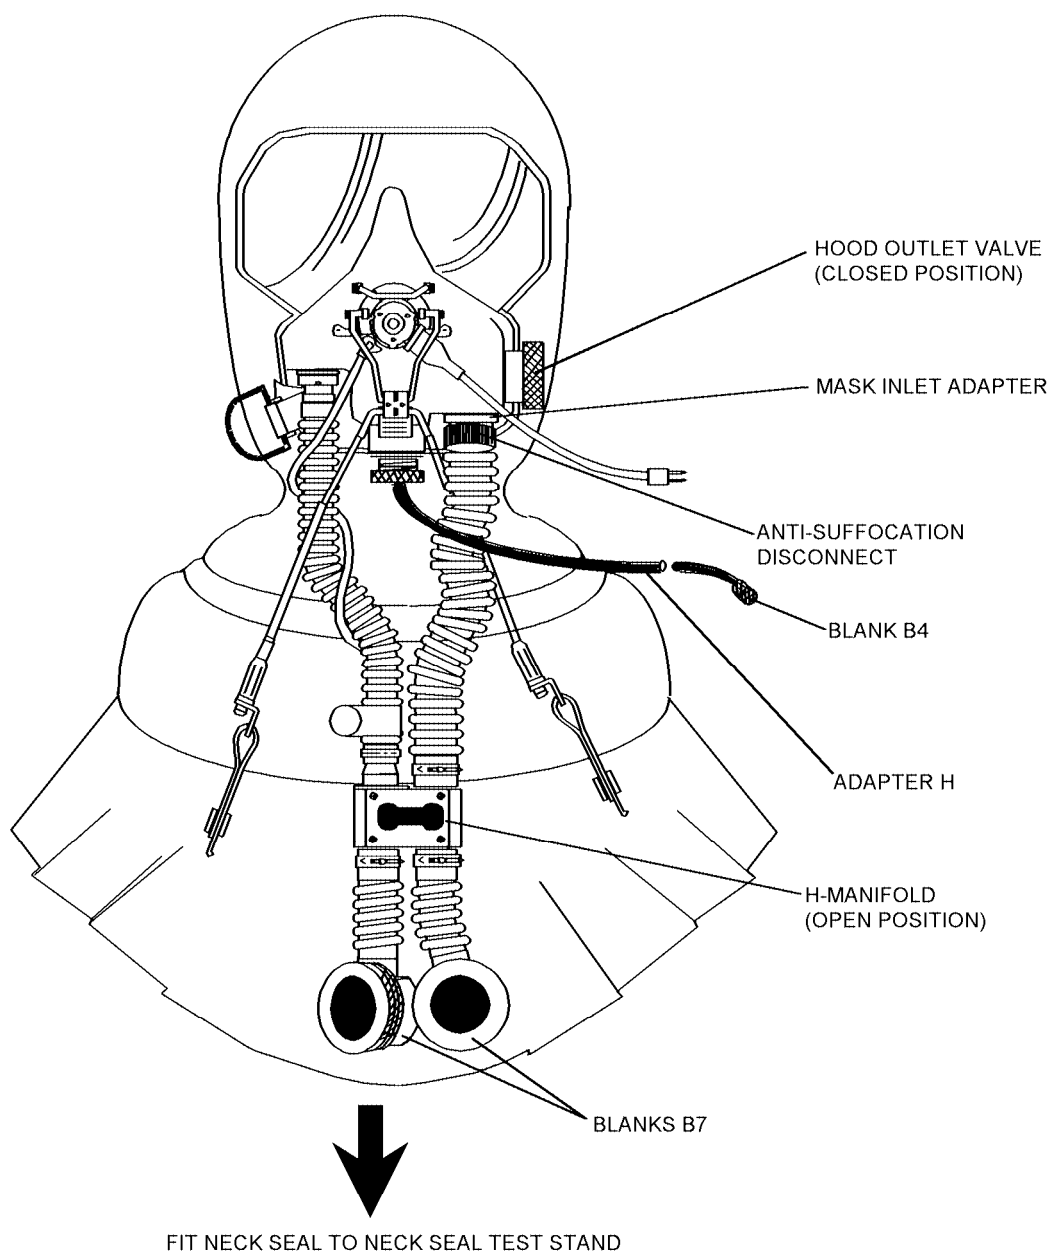

Figure 4-99. (V)2 thru (V)4 Variants - Mask Assembly - Overall Leakage Test
2. Fit blank B7 to right-side J-manifold (figure 4-99).